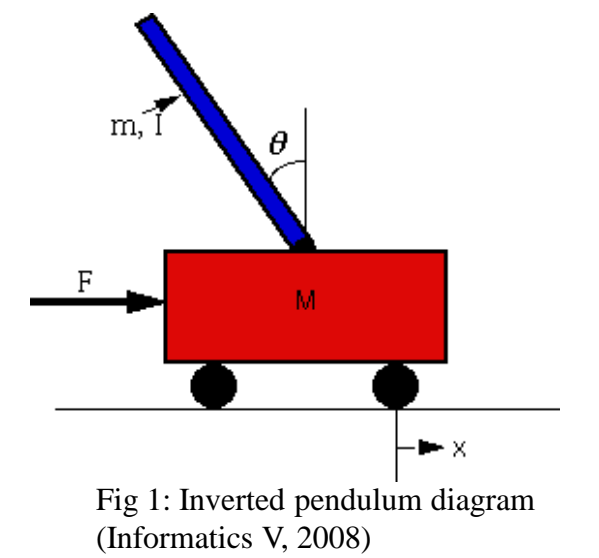
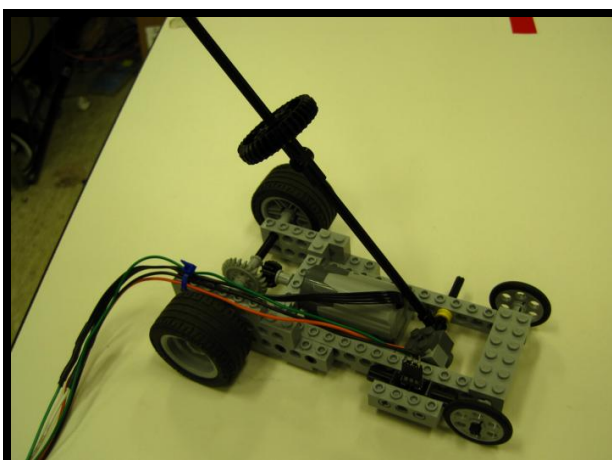

Fig 1: Inverted pendulum diagram (Informatics V, 2008)
Fig 2: Assembled inverted pendulum cart
2. Follow the schematic in Figure 1 to connect the rest of the components. Figure 2 includes the pins for a typical quad op amp.